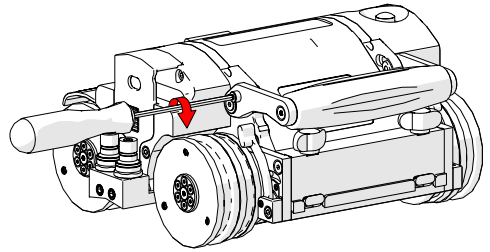

Fig. 63 - Tighten lock screws
3. Tighten the handle lock screws when complete (Fig. 63).